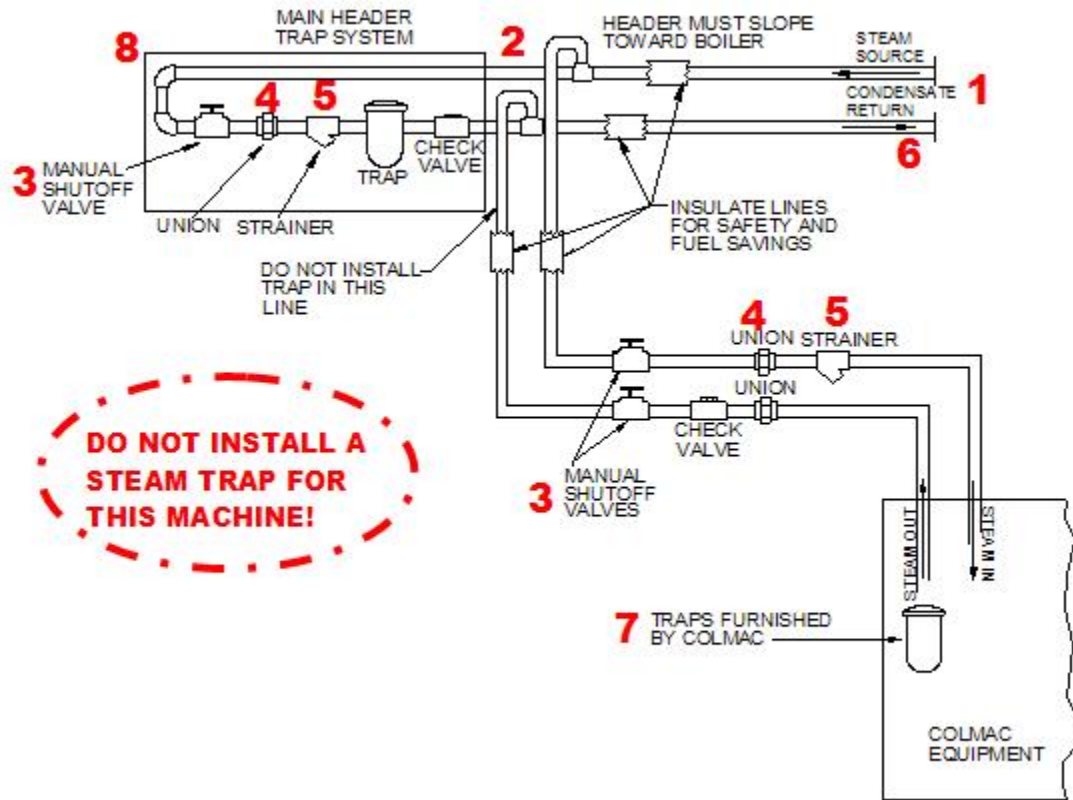

Figure 12 - Proper Steam Plumbing Example
The steam and return system connections are very important. Poor steam quality or incorrect connections directly affect its performance. (Figure 12).
- 2** **Supply Line:** Connect the steam line to the top of the steam headers as shown in Figure 12 to insure a clean, dry steam supply.
- 3** **Shut-off valves** installed ahead of the union and strainer on the "steam-in" and "steam-out" lines and between the union and return header on the "Main Header Trap System" (8), will simplify shut-off for repair and maintenance. "Ball" or "Gate" type valves are recommended for maximum flow. Shut-off valves need to be in the "ON" position during machine operation.